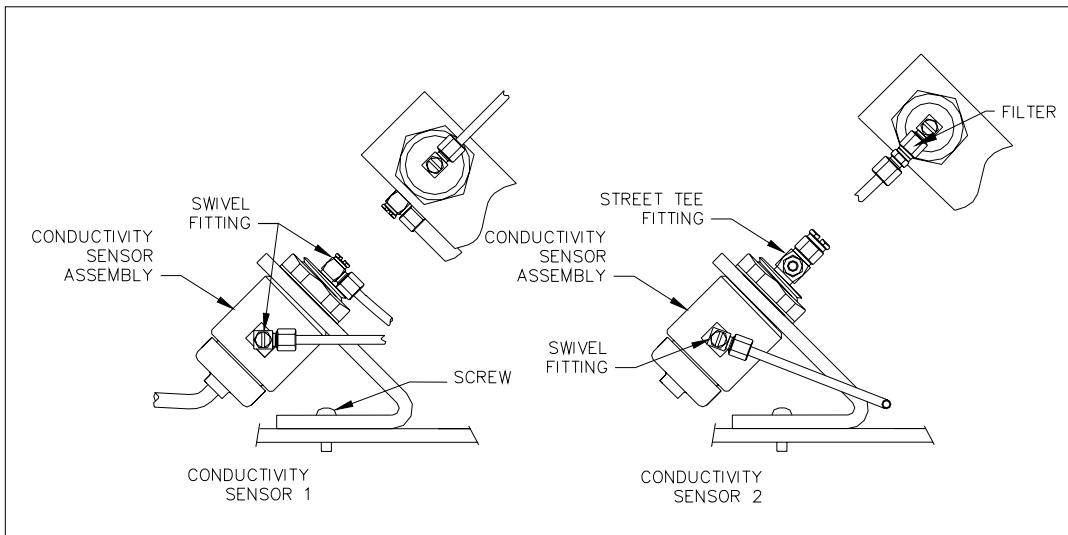

Figure 10. Conductivity/Temperature Sensor Assembly
5. Carefully remove the conductivity sensor assembly from the base plate by removing the two Phillips screws that secure the bracket to the base. See Figure 10.
8. **Caution: Do not allow any kinks in tubing.** Reconnect the tubing to the new conductivity sensor (P/N 58 091 511) by screwing the fittings into the top and side of the sensor. If necessary, loosen the sensor retaining nut to adjust the orientation of the fittings as shown in Figure 10.